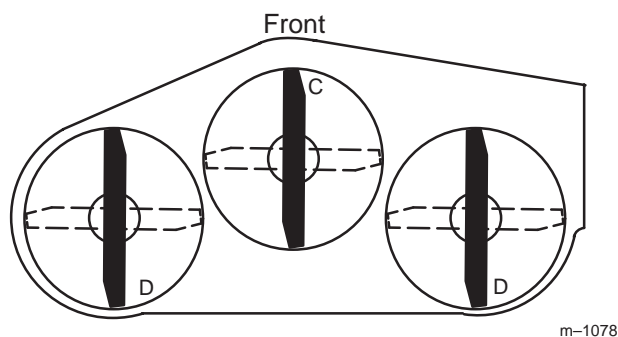
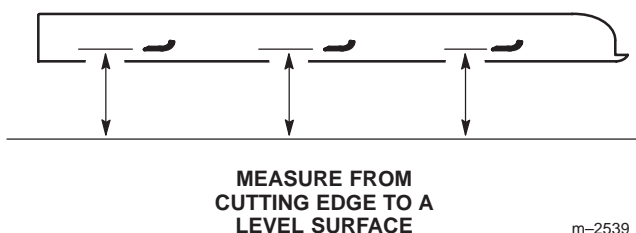

Figure 14
Figure 15
2. Position one blade front-to-rear (Fig. 14). Measure at **C** and either **D** location (Fig. 14) from a level surface to the cutting edge of the blade tips (Fig. 15).